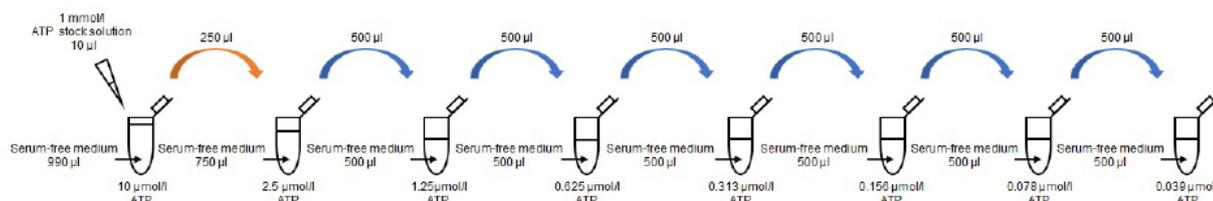

Figure 2 Preparation of ATP standard solutions
(2) Mix 250 µl of 10 µmol/l ATP standard solution and 750 µl of serum-free medium in a conical tube to prepare a 2.5 µmol/l ATP standard solution.
(3) Prepare the following ATP standard solutions by serial dilution with serum-free medium: 2.5, 1.25, 0.625, 0.313, 0.156, 0.078, 0.039 and 0 µmol/l (Figure 2).